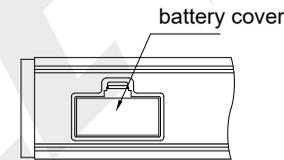

Fig.1
- Remove the battery cover(Fig.1)